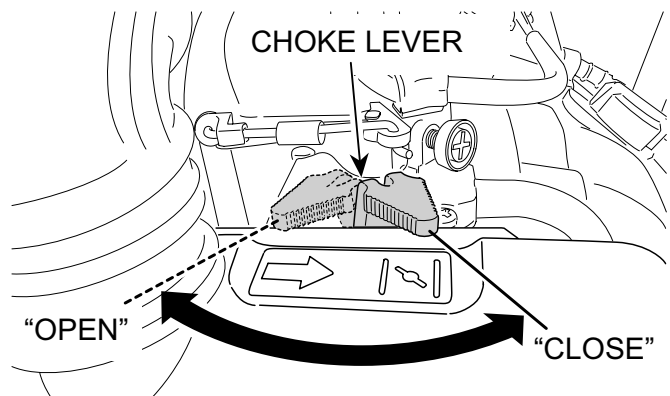

Figure 16. Choke Lever (Closed)
4. In cold weather, start the unit with choke lever "Fully Closed" (Figure 16). In warm weather or when the engine is warm, the unit can be started with choke halfway or completely open.
6. If engine fails to start, move the choke lever (Figure 16) to the half open position to avoid flooding.